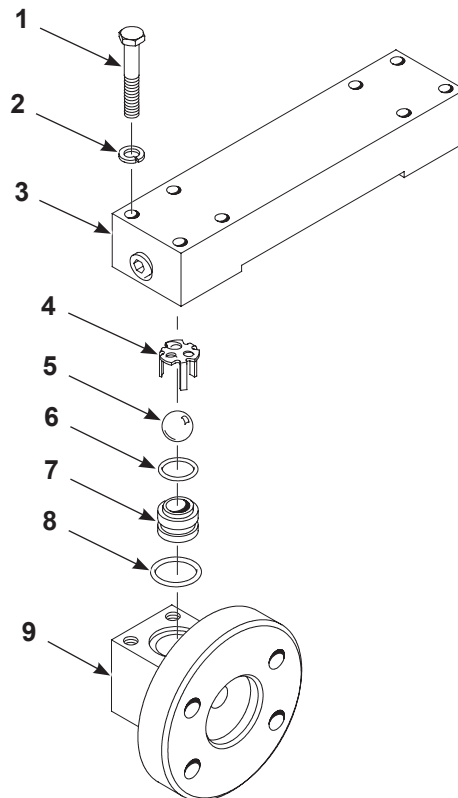
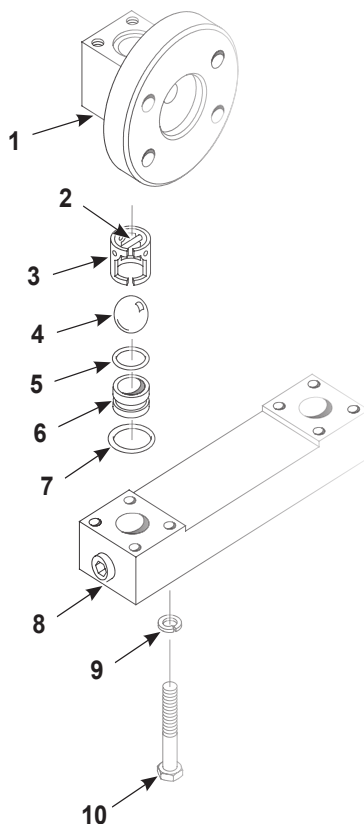
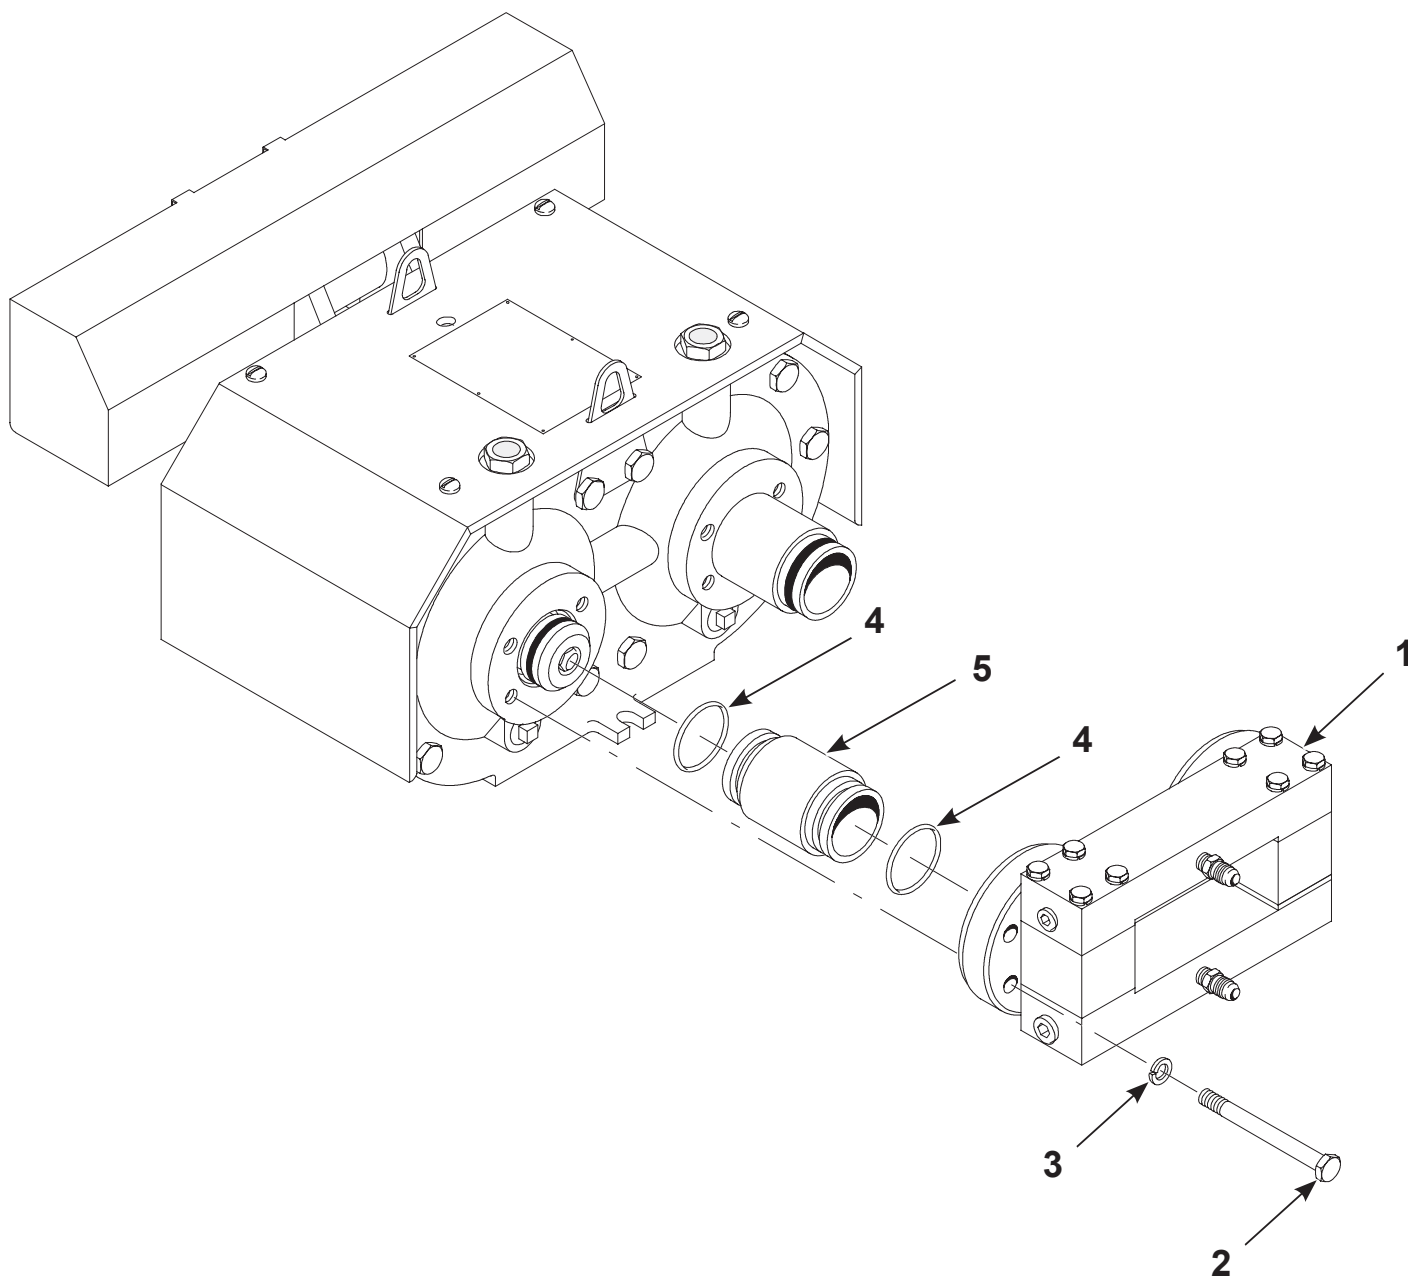

Figure 6-3 High-Pressure Check Rebuild
Figure 6-4 Siphon Check Rebuild
Figure 6-5 Hydraulic Section Installation
1. See Figure 6-3. Remove the screws (1) and lock washers (2) that secure the pressure manifold (3) to the check housings (9).
2. Remove the ball cages (4) and balls (5) from the check housings.
3. Remove and discard the O-rings (8) from the check housings.
4. Remove the ball seats (7) from the check housings. Remove and discard the O-rings (6) from the ball seats.
6. Install the O-rings (6) onto the ball seats (7).
7. Install the ball seats (7), balls (5), and ball cages (4) into the check housings.
8. Install the O-rings (8) into the check housings.
9. Install the pressure manifold (3) to the check housings (9) using the lock washers (2) and screws (1). Do not tighten the screws at this time.
1. See Figure 6-4. Remove the screws (9) and lock washers (8) that secure the siphon manifold (7) to the check housings (1).
2. Remove and discard the O-rings (2) from the check housings (1).
3. Remove the ball seats (6) from the check housings (1). Remove and discard the O-rings (5) from the ball seats.
4. Remove the ball guides (3) and balls (4) from the check housings (1).
6. Install the O-rings (5) onto the ball seats (6).
7. Install the ball guides (3), balls (4), and ball seats (6) into the check housing (1).
8. Install the O-rings (2) into the check housings (1).
9. Install the siphon manifold (7) to the check housings (1) using the lock washers (8) and screws (9). Do not tighten the screws at this time.
1. See Figure 6-5. Lubricate the O-rings (4) with O-ring lubricant and install them onto the high pressure cylinders (5).
2. Install the high pressure cylinders (5) into the solvent chamber.
3. Install the hydraulic section (1) to the pump using the lock washers (3) and screws (2). Tighten the screws to 41- 47 N•m (30- 35 ft-lb).
4. Tighten the pressure manifold screws (See Figure 6-3, (1)) and siphon manifold screws (See Figure 6-4, (9)) to 27- 34 N•m (20- 25 ft-lb).